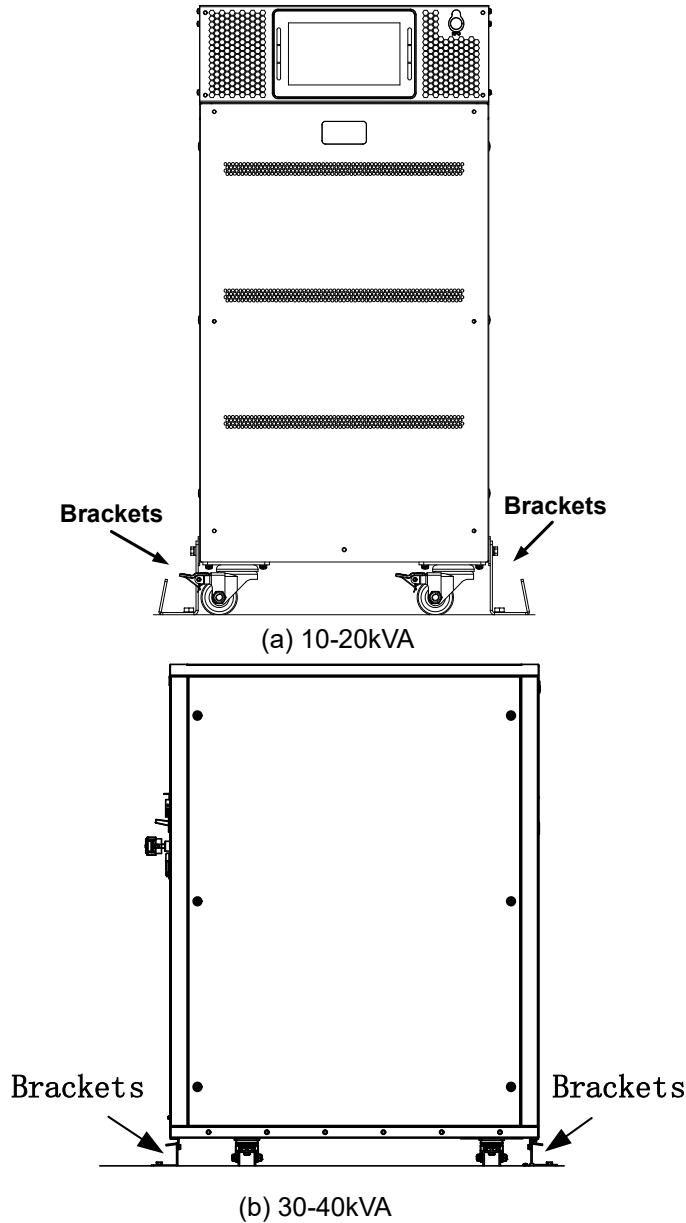

Figure 3-8 The brackets of the UPS
- (2) Use a hammer drill to drill holes at the installation positions for the expansion bolts, with a drill hole diameter of 10mm. Fully drive 4 M8 expansion bolts into the installation holes. Tighten the bolts to fully expand the expansion bolts, then unscrew the bolts.
- (3) Push the UPS to the designated installation position.
- (4) Install the brackets of the UPS, as shown in Figure 3-8.